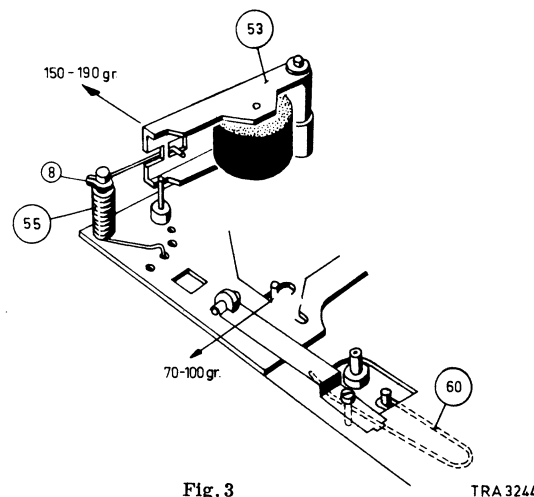

Fig. 3
Pressure roller lever (Fig. 3)
Checking the winding friction 63 (Fig. 3)
- If the current increase is less than 8 mA, the pressure of the pulley of idler bracket 63 onto the right-hand turntable must be reduced to min. 70 grammes (see Fig. 3).